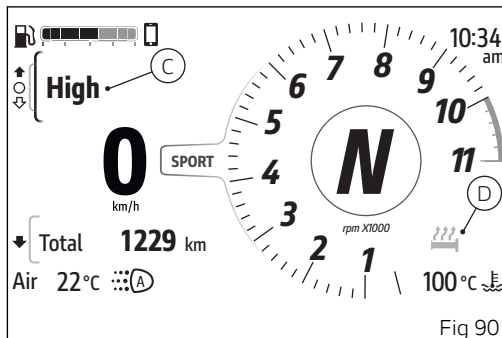

Fig 90
Window (C, Fig 90) is displayed for adjusting the handgrip heating; here the 4 available levels (High, Medium, Low, Off) and the "Back" item are listed. Use buttons (1) and (2) to scroll through the available levels. Press the ENTER button (3) to confirm the selected level. To close the window, select the "Back" item and press the ENTER (3) button, or press and hold button (1).
Each level is associated with an icon (D, Fig 90), displayed in grey when heating is off. When the heating is activated, the icon turns black if the display is in "day" mode and white if the display is in "night" mode.